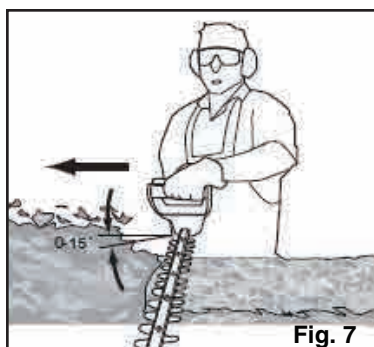

Fig. 7
- After cutting the sides proceed to the top (Fig. 7).